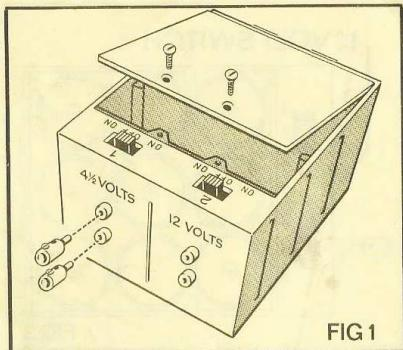

FIG 1
- Unscrew the 2 screws on top of the box and remove the lid (Fig. 1).